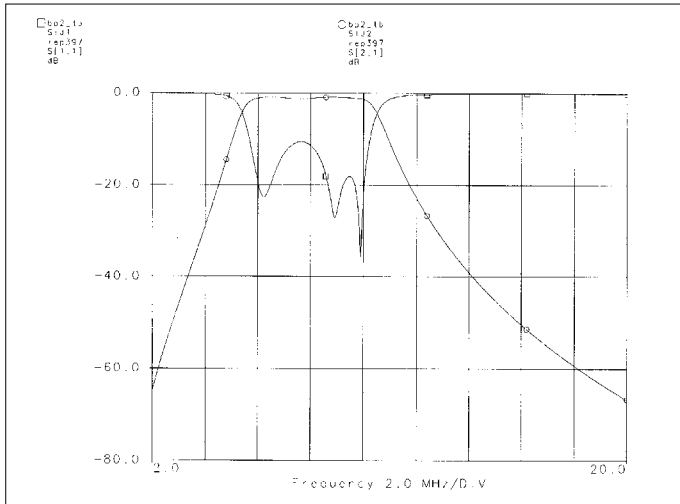
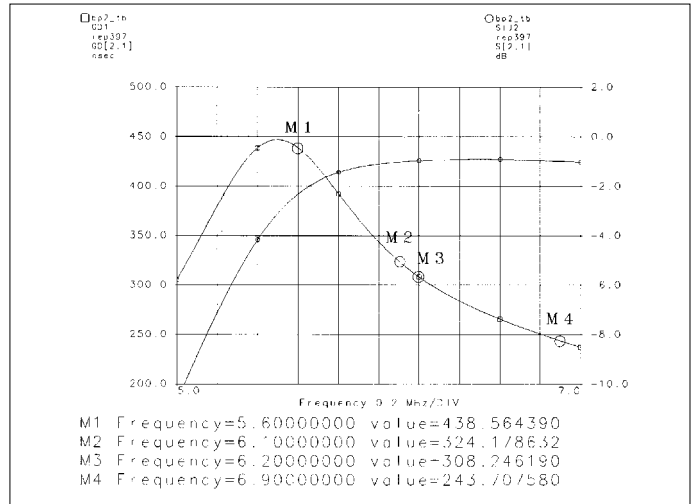

Fig.2
Fig.3
*In Repeater 3/1997 only the frequency characteristic was given in figure 3, page 18. Here, the frequency characteristic of the bandpassfilter is shown in figure 2, while taking the influence of the Q-factors of the used coils. Figure 3 shows the groupdelay variation between 5 and 7 MHz as well as the frequency response. The various simulations were once again performed using Series IV/PC of HPEesof.*
*The groupdelay variation within this bandwidth can be read from figure 3. It can be seen that at a center frequency of 5.5 MHz the variation will be no more than 10 nsec, but the attenuation varies from 2 to 4 dB. In reality the various component tolerances will alter the groupdelay and attenuation graphs. The audible result will be an increase in distortion. Usually this will hardly be noticed due to other distortions and/or the listener accepting a certain amount of distortion.*
*Since a lot of people are using the Nicam encoder described in Repeater 1 and 2 of 1999, it became necessary to review the bandpassfilter belonging to the baseband modulator published in Repeater 3/1997. The Nicam encoder can produce either 5.85 MHz or 6.552 MHz Nicam carriers of which only the latter can be fed through the (old) bandpassfilter successfully, since the roll-off frequency of the (old) filter lies at 6 MHz. The 5.85 MHz Nicam carrier (system B/G) has a bandwidth of 500kHz as represented by markers M1 and M2 in figure 2. The groupdelay variation between these markers is  $438.5 - 324.1 = 114.4$  nsec. The 6.552*